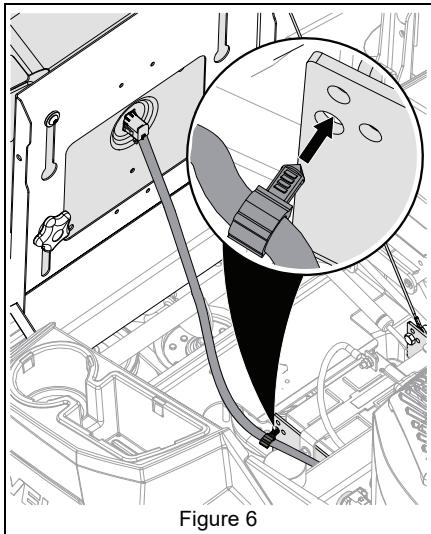

Figure 6
6. Insert cable clip into lower hole on battery tray. See Figure 6.
4. Insert cable clip into lower hole on battery tray. See Figure 6.